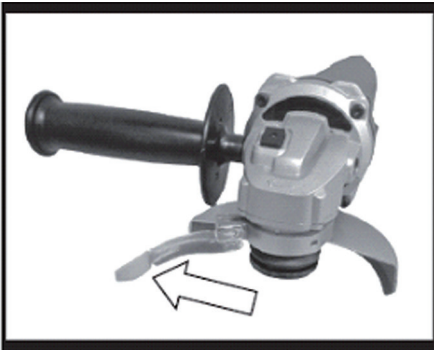

Fig. 3
Tighten clamp adjustment screw (7). (See Fig 3)